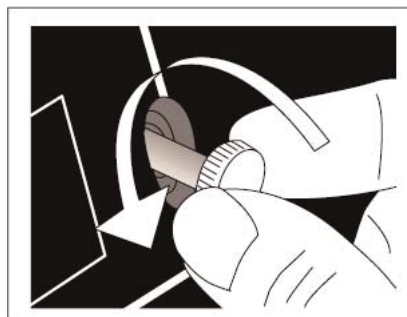

Figure 14 – Opening Air Vent Screw
1. Fill fuel tank with kerosene or No. 1 fuel oil. Turn the Air Vent Screw 3 full turns counterclockwise from the factory closed / fully clockwise position. (This will allow air to escape during operation). See Figure 14.